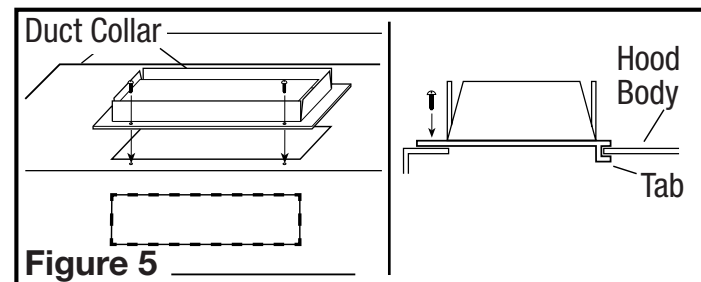

Figure 5
7. Install the duct collar to the hood by sliding the tabbed section of the duct collar under the hood body and securing with the two provided screws. Using approved duct tape, tape around the collar to seal off any air leaks (**Figure 5**).